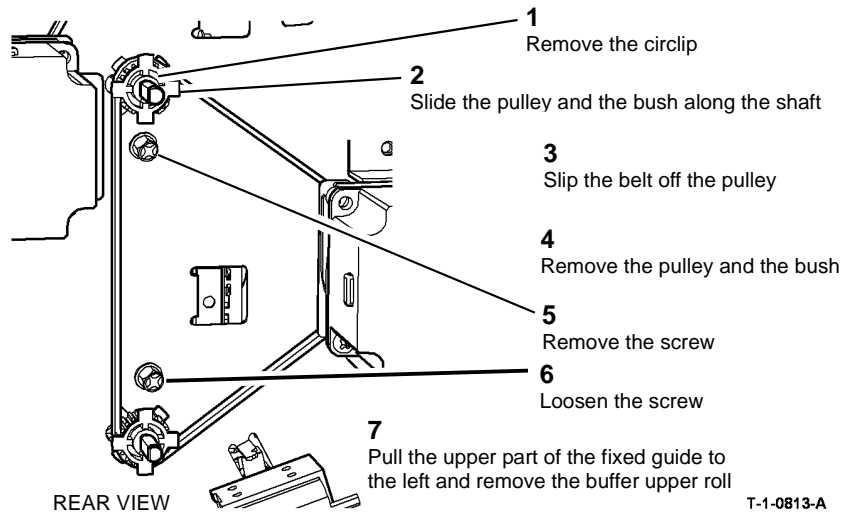

Figure 2 Buffer upper roll removal
3. Figure 2. Remove the buffer upper roll.